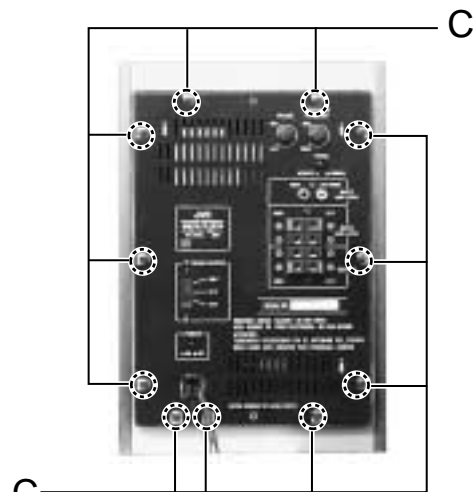

Fig.7
**■ Removing the amplifier box (See Fig.7, 8)**